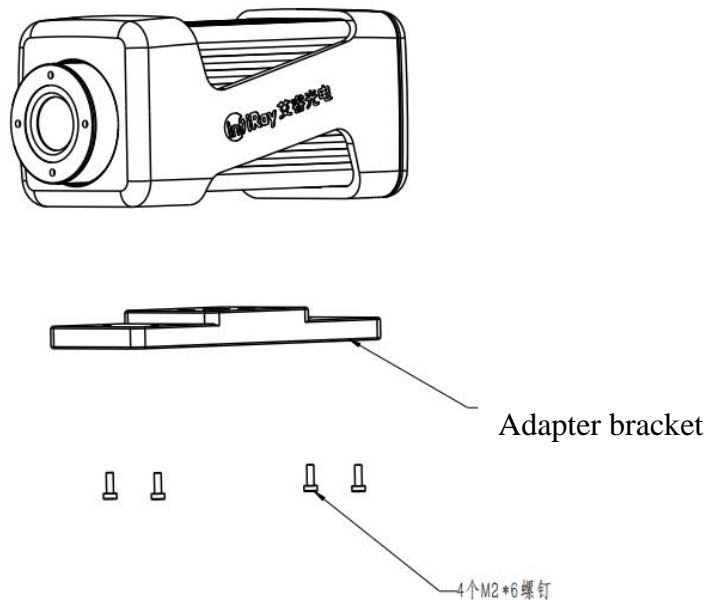

Figure 3 Installation of camera adapter
- Fix the adapter bracket on the thermal imager with 4 screws(M2\*6), as shown in Figure 3;